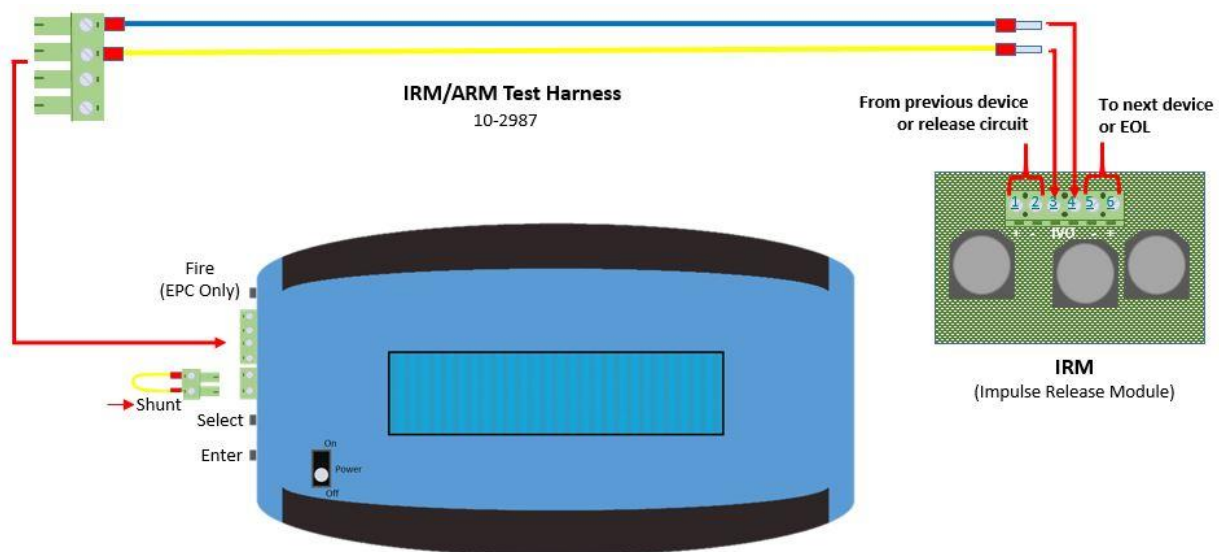

Figure 6 - IRM Circuit Activation Current Test
2. Connect the Analyzer to the IRM, as shown in Figure 6 below.